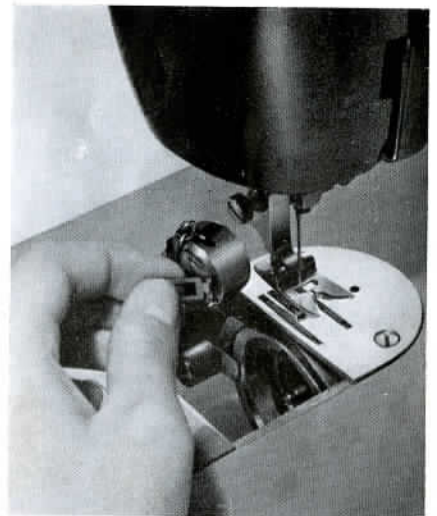

Fig. 7
4. After threading the bobbin case, hold its latch between the thumb and forefinger of left hand (Fig. 7), with its position finger opposite the notch at the top of the shuttle race, place it on